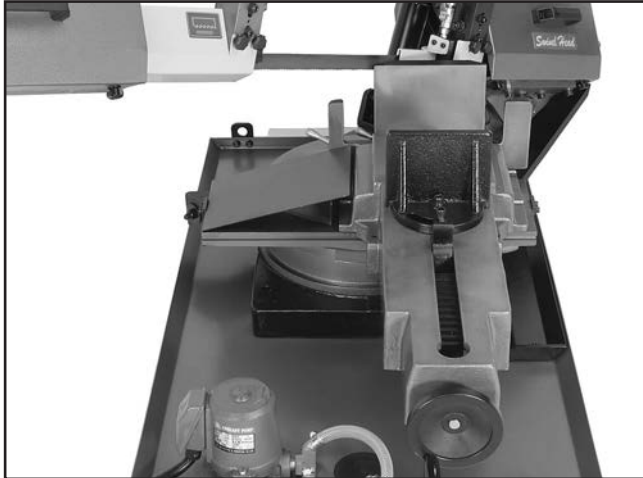

Figure 15. Vise to the right.
4. Pull the vise all the way to the opposite side of the base and lock it in position (see **Figure 15**).